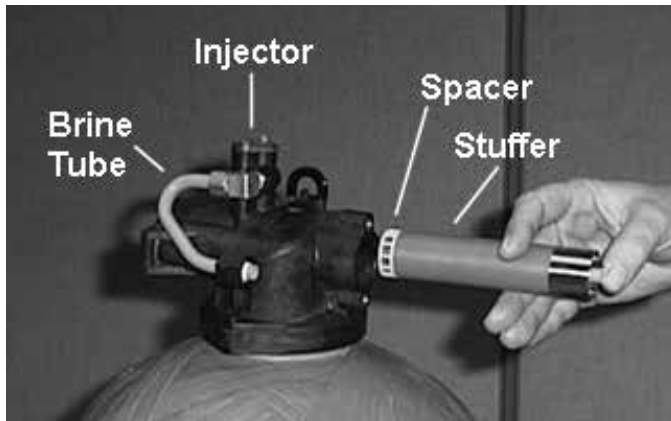

Figure 9
11. To replace seals, spacers and end ring, use special tool with the brass sleeve on one end. This is a double-purpose tool (see Figure 9). The male end acts as a pilot to hold the spacers as they are pushed into the valve body and the brass female end is used to insert the seals into the valve